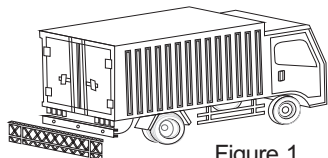

Figure 1
① Objects that are too thin such as screens, fences, or ropes, as shown in Figure 1